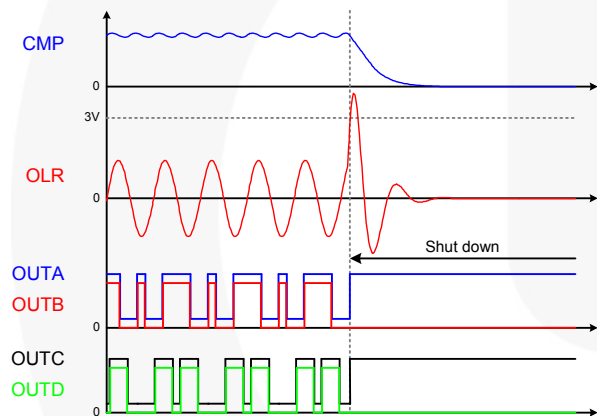

Figure 50. Arc Protection
**Arc Protection:** If the maximum of the rectified OLR input voltages ( $V_{OLR}^{\max}$ ) is higher than 3V, the IC enters shutdown mode without delay, as shown in Figure 50.